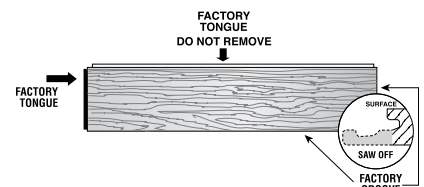

Fig. 9
6. Prepare replacement board by removing bottom of groove on end and side (Fig. 9).